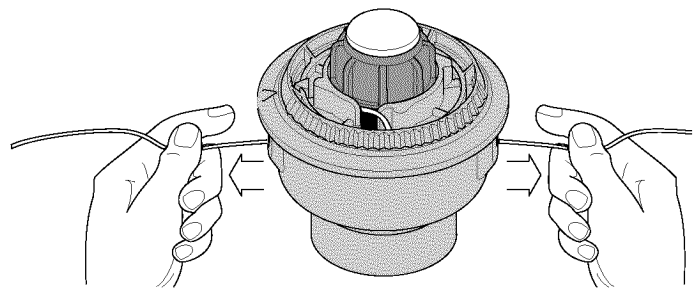

Fig. 21
9. If winding the line becomes difficult or if the line jams, pull the ends of the line from the spool (Fig. 21). Continue winding the inner reel counterclockwise.
If the SpeedSpool® does not release line correctly, pull the ends of the line firmly from the spool (Fig. 21). If this does not release the line, follow the *Cleaning the SpeedSpool®* instructions.